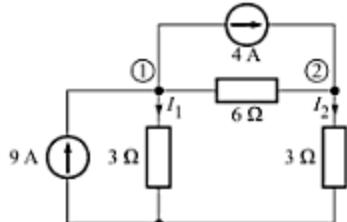

Fig. 3.79
20. By applying nodal analysis to the circuit of Fig. 3.79, determine the currents  $I_1$  and  $I_2$ .